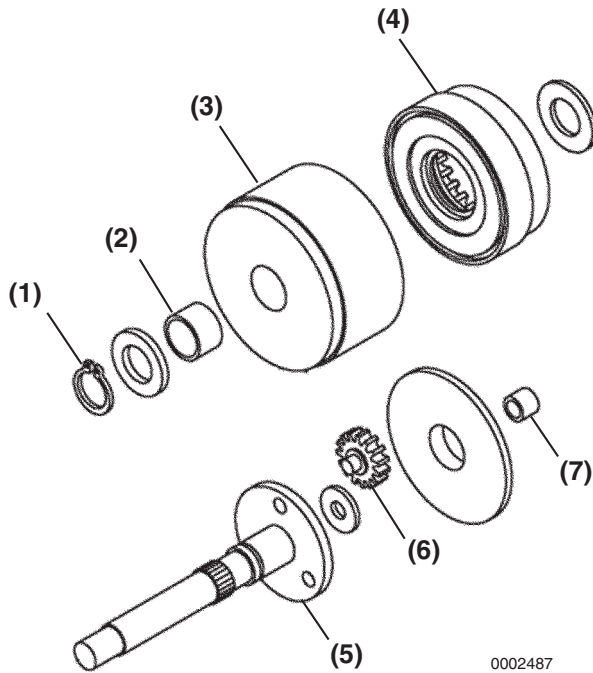

Figure 10-28
2. Reassemble the reduction gear (**Figure 10-28, (4)**), pinion shaft (**Figure 10-28, (5)**), planetary gears (**Figure 10-28, (6)**), and washers into the intermediate housing (**Figure 10-28, (3)**). Reinstall snap ring (**Figure 10-28, (1)**).